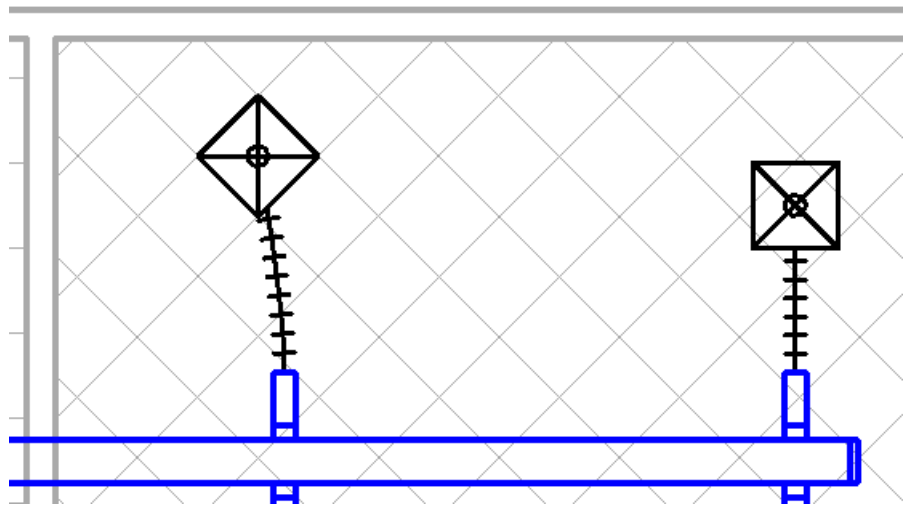

Figure 2–62
13. The flex duct moves with the air terminal as shown Figure 2–62.